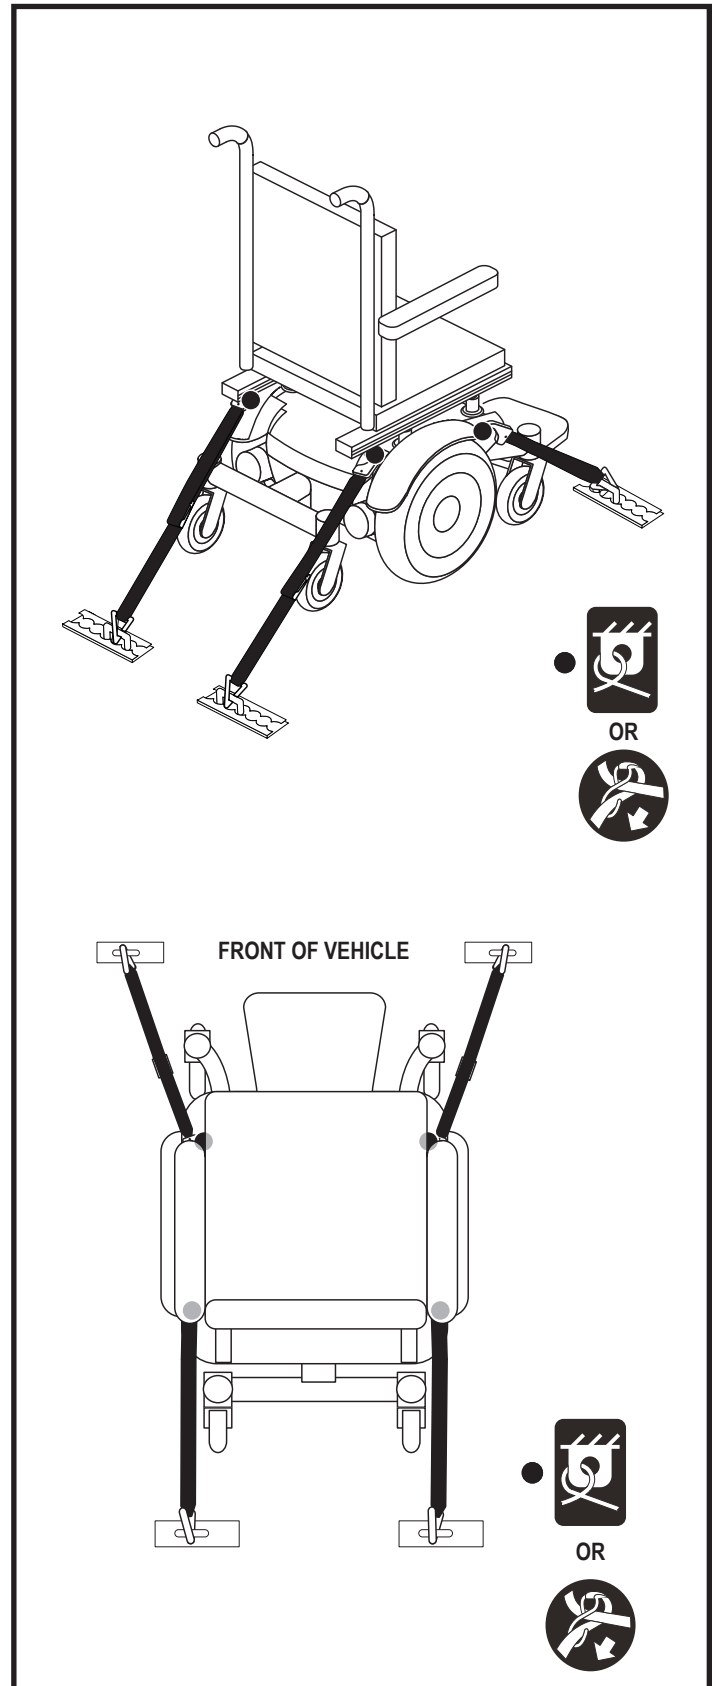

Figure 6. Unoccupied Transit System Securement Points
- Attach the four tie-down straps to only designated, labeled transit securement points indicated by anchor symbols on the power chair. **See figure 6.** Tighten the straps to sufficiently remove all slack.
- Position the anchor points for the rear tie-down straps directly behind the rear securement points on the power chair. The front tie-down straps should be anchored to floor points that are spaced wider than the power chair to provide increased stability. **See figure 6.**